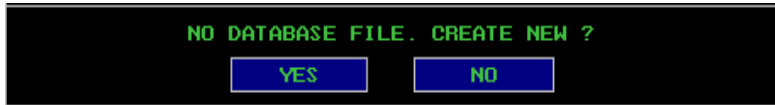

Figure 2.8: Create New Database Dialog Box
1. If you have not created one, a dialog box opens asking if you would like to create one now (Figure 2.8).